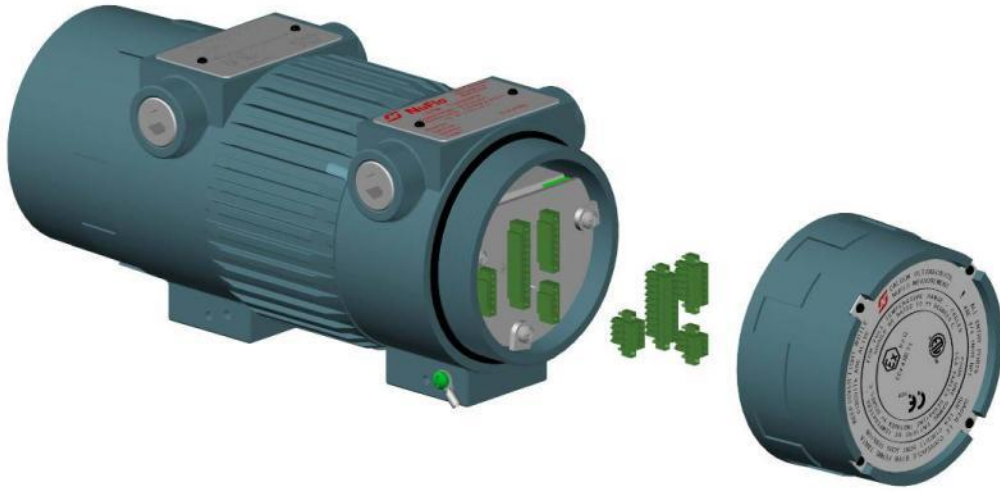

Figure 8.7: Rear Cover Removal
2. Unscrew and remove the rear cover to reveal the BIB and the user terminations (Figure 8.7).